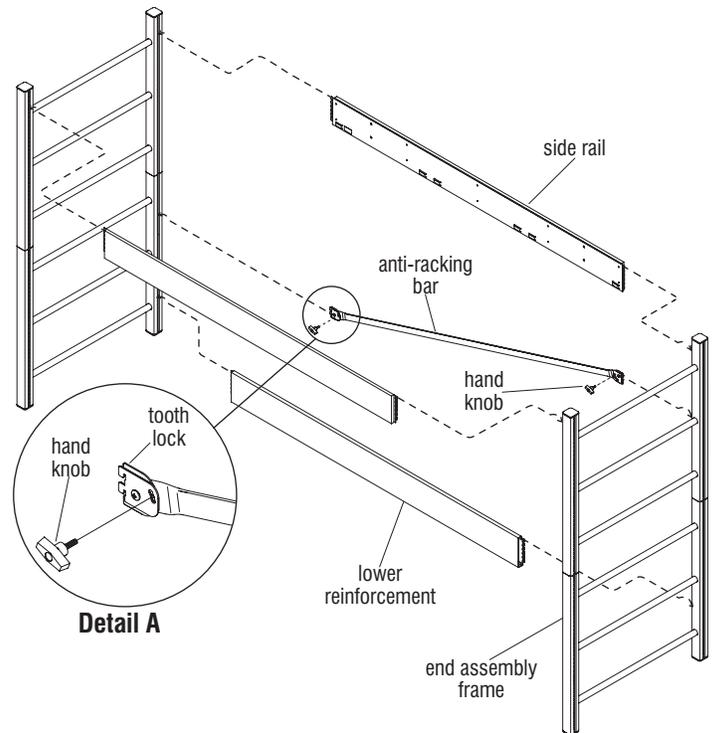

Figure 2 - Loft Bed - Spring Deck Frame
Important: Loft beds with spring deck require the installation of an anti-racking bar at the wall-side of the bed assembly. This will be covered on page 10, Figure 2.
3. Locate the anti-racking bar and a pair of hand knobs. Position the anti-racking bar as illustrated, with the slots to install the hand knobs facing inward and with the left-side of the bar lower (Figure 2 & Detail A).
4. As illustrated, engage the left-side teeth of the anti-racking bar into the end frame mounting slot, at half-way up the lower end frame. Push the tooth lock into the end frame to lock. Next engage the teeth at the right-hand side of the anti-racking bar into the end frame mounting slot, at half-way up the upper end frame. Push the tooth lock at the right-side into the end frame, then twist a hand knob into each end of the anti-locking bar as illustrated and tighten both to secure (Figure 2 & Detail A).